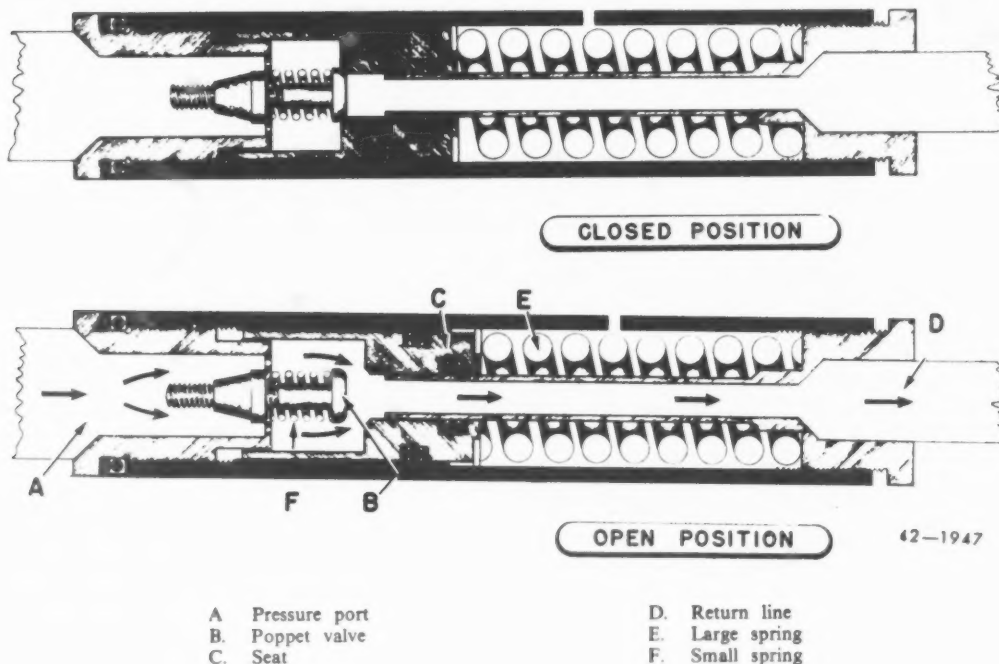

Figure 2-16. Balanced outlet relief valve.
Balanced outlet relief valve. Some relief valves are constructed so that back pressure cannot affect the operation of the valve. Notice the way the housing is constructed in figure 2-16. It is so constructed that the back pressure in the return line (D) cannot act against the back side of the seat (C). This will allow the valve to open at a preset amount without having to worry about back pressure. The thing to remember is that this valve does not eliminate back pressure, but it does eliminate the effective area that the back pressure can act upon. Without an area that pressure can act against, there will be no force. This relief valve consists of a cylindrical housing stamped to identify the ports as PRESS (pressure) and RET (return). Let's see now how this valve operates. The large spring (E) forces the seat (C) against a stop on the valve housing, and the small spring (F) forces the poppet valve (B) against the seat assembly. This is known as the closed position. When fluid pressure at the pressure port (A) reaches a preset amount, the pressure forces the seat (C) to compress the large spring. As the seat moves, it unseats from the